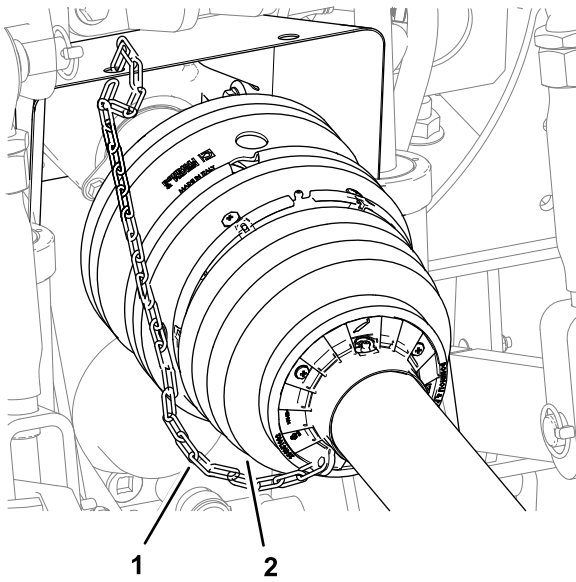

Figure 26
6. Attach the restraint chain to a fixed part of the tow vehicle (Figure 26).